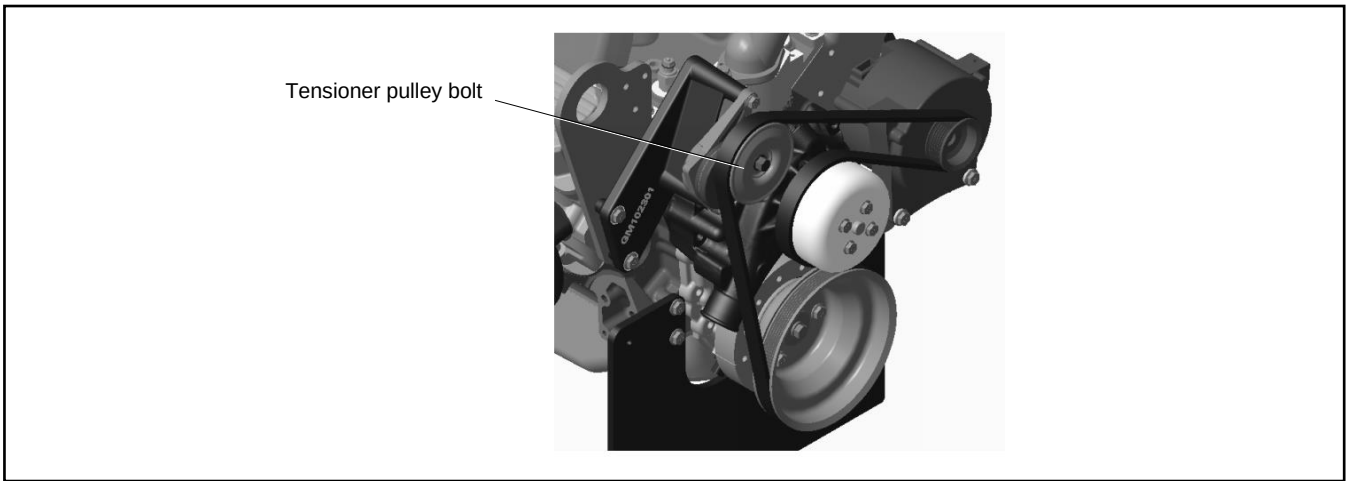

Figure 31 Tensioner Location
1. Use a socket wrench to turn the tensioner pulley clockwise against the spring force. See Figure 31.